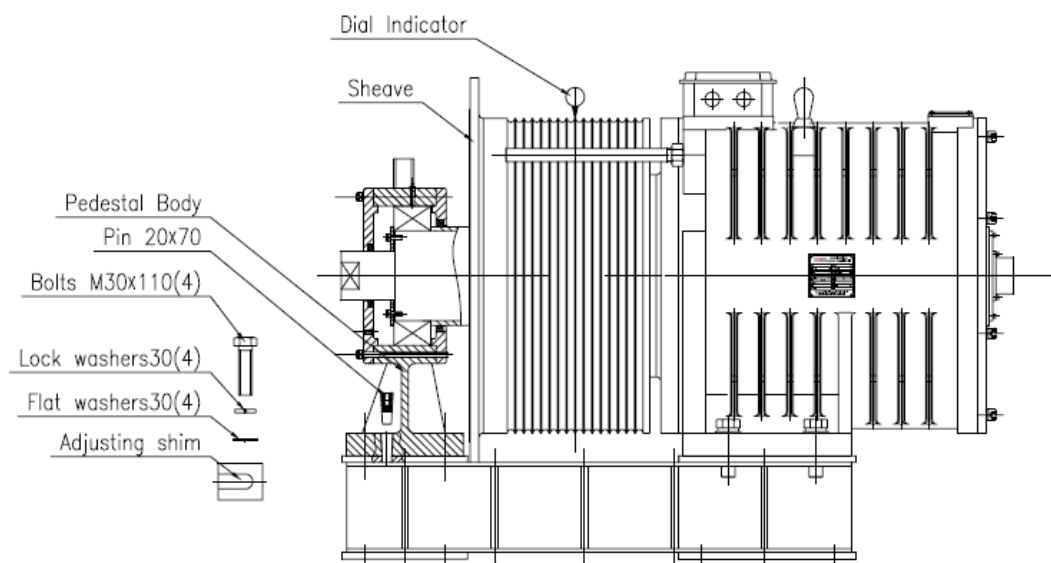

Figure 95: Pedestal Body Installation and Adjustment
1. Insert and thread the bolts M30x110 (4 pieces) with flat washers30 (4) and lock washers30 (4). Do not tighten these bolts at this time. See Figure 95.